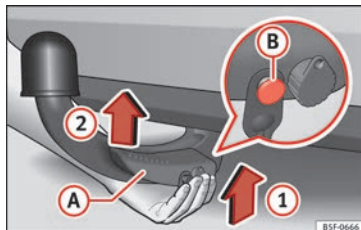

Fig. 182 Fitting the detachable ball / Release bolt in the deployed position.
- Grip the detachable ball **from below** » **Fig. 182** and insert it into the hook hous-